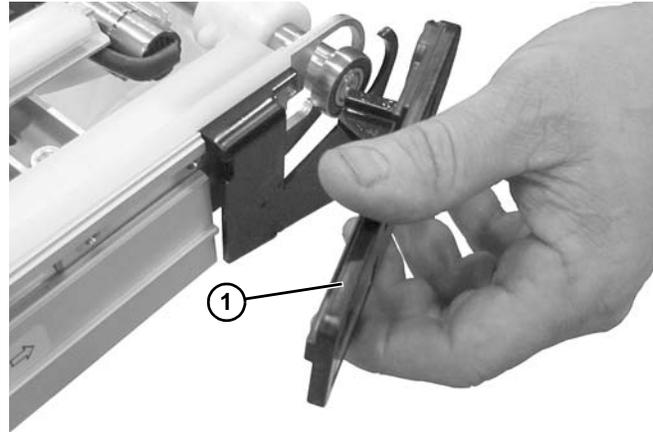

Figure 67
10. Remove tail plate (Figure 67, item 1) from frame.